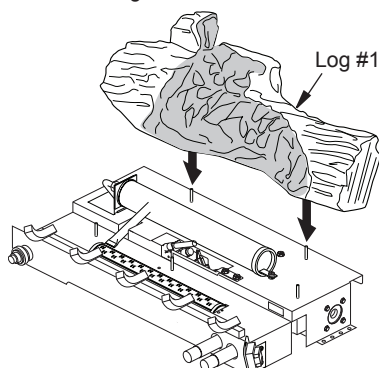

Figure 23 - Installing Log #1
1. Align two pins at rear of base with two holes in bottom of back log (#1). Place log on pins (see Figure 23).